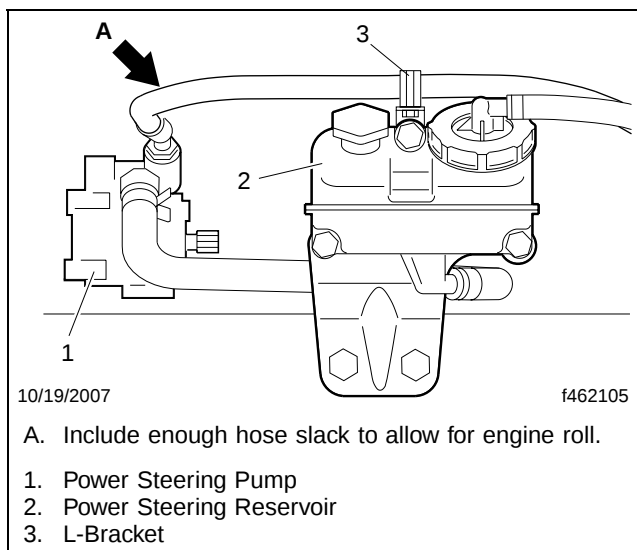

Fig. 5, Hose Routing To Pump (S60 Shown)
27. Install and route the new pressure line from the frame-mounted hose bracket to the pump, and include extra hose between the L-bracket on the top-mount of the reservoir and the pump to allow for engine roll. See **Fig. 5**. Tighten the fitting 42 to 52 lbf·ft (57 to 70 N·m).
30. Using hose clamps, install the new power steering pump suction line on the reservoir and pump. See **Fig. 5**.